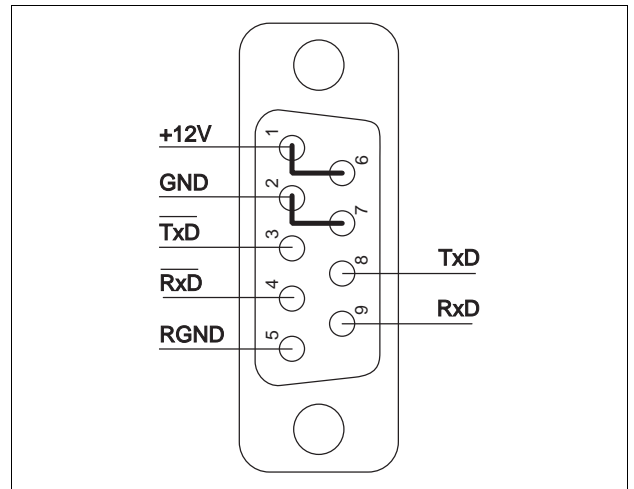

Fig. 2-15 Interface connection – unit side
1. Solder litz wires to connector according to fig. 2-15.